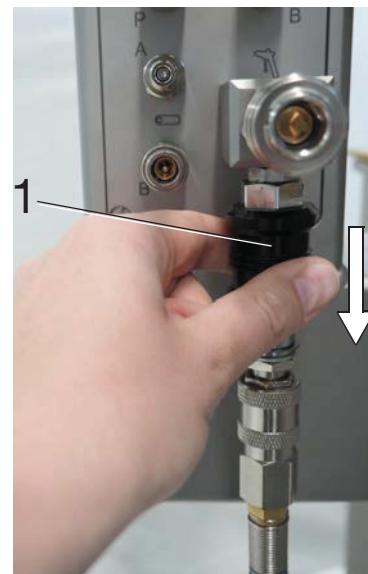

Fig. 5-1 Arrow: pointing against the direction of flow
- Push the air release valve (1, Fig. 5-1) against the direction of flow (see arrow, Fig. 5-1), thereby opening it.